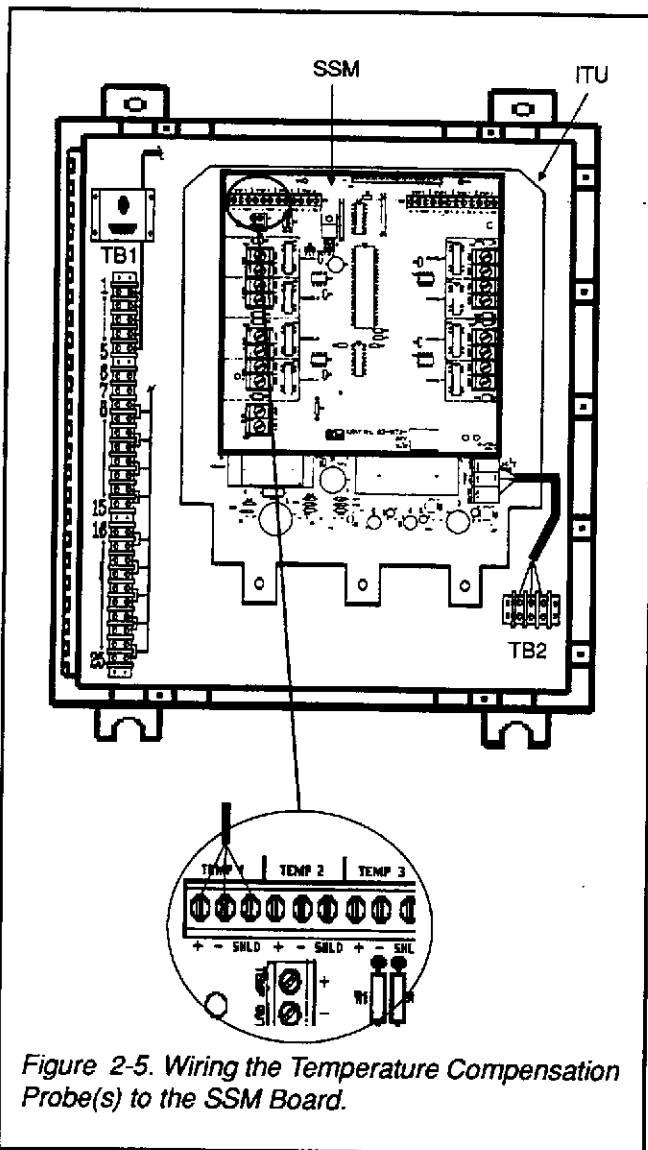

Figure 2-5. Wiring the Temperature Compensation Probe(s) to the SSM Board.
Figure 2-5. Wiring the Temperature Compensation Probe(s) to the SSM Board . . . . .	2-6
2. Route the temperature compensation probe wires to TB1 and/or TB2. See Figure 2-5.